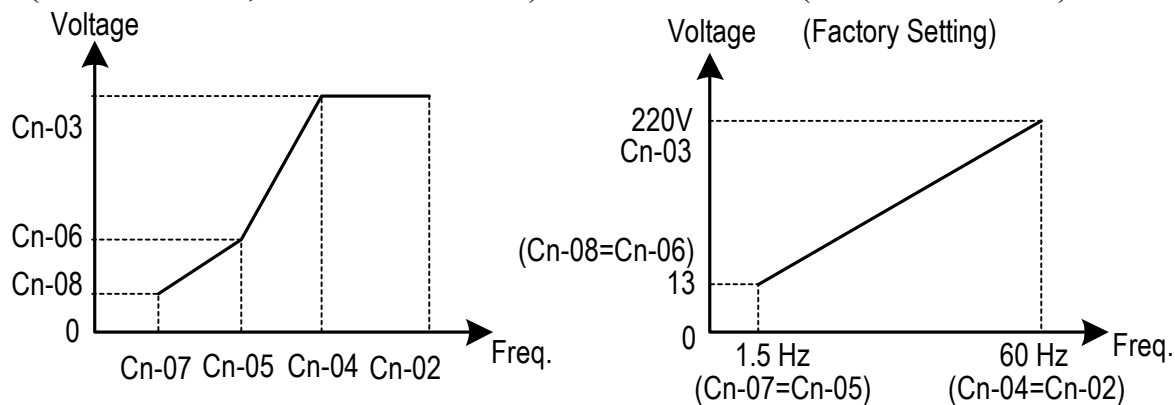

Fig. 17. User-defined V/F curve
(1) Input Voltage Setting (Cn-01)
(2) V/F Curve Parameter Settings (Cn-02~Cn-08)
- Setting Cn-02~Cn-08 can be set by the user when Sn-02 has been set to “15”. The user-defined V/F curve can be specified through the settings of Cn-02~Cn-08 as shown in Fig. 17. The factory setting is straight line for the V/F curve. (Cn-05=Cn-07, Cn-06 is not used) as shown below (230V/60Hz case).
(5) Motor Rated Slip (Cn-11)
- This setting is used as a reference value for torque compensation function. See Fig. 17. The setting is 0.0~9.9% as a percentage of motor Max. voltage frequency (Cn-04) as 100%.